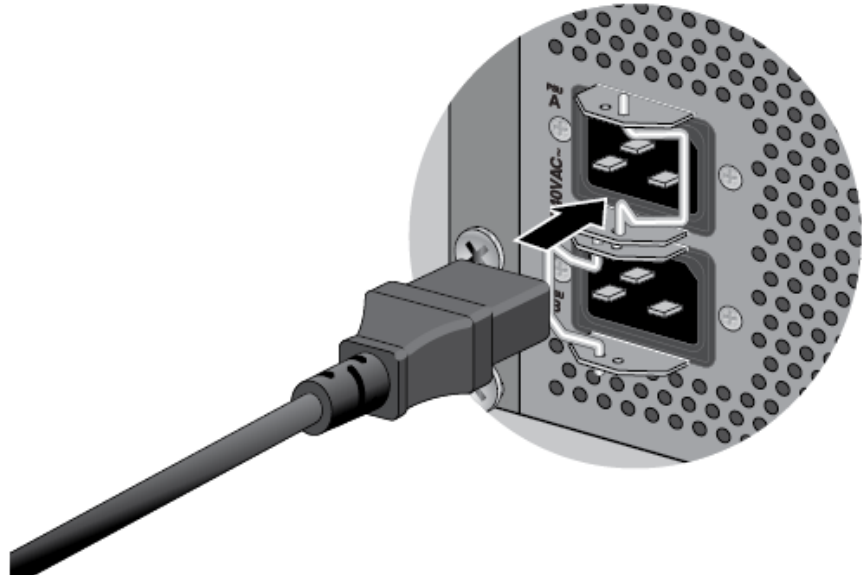

Figure 53. Connecting the AC Power Cord
1. Connect the AC power cord included with the power supply to the AC power connector on the rear panel of the chassis. If the chassis has two power supplies, you may power them on one at a time or simultaneously. Refer to Figure 53 on page 92.